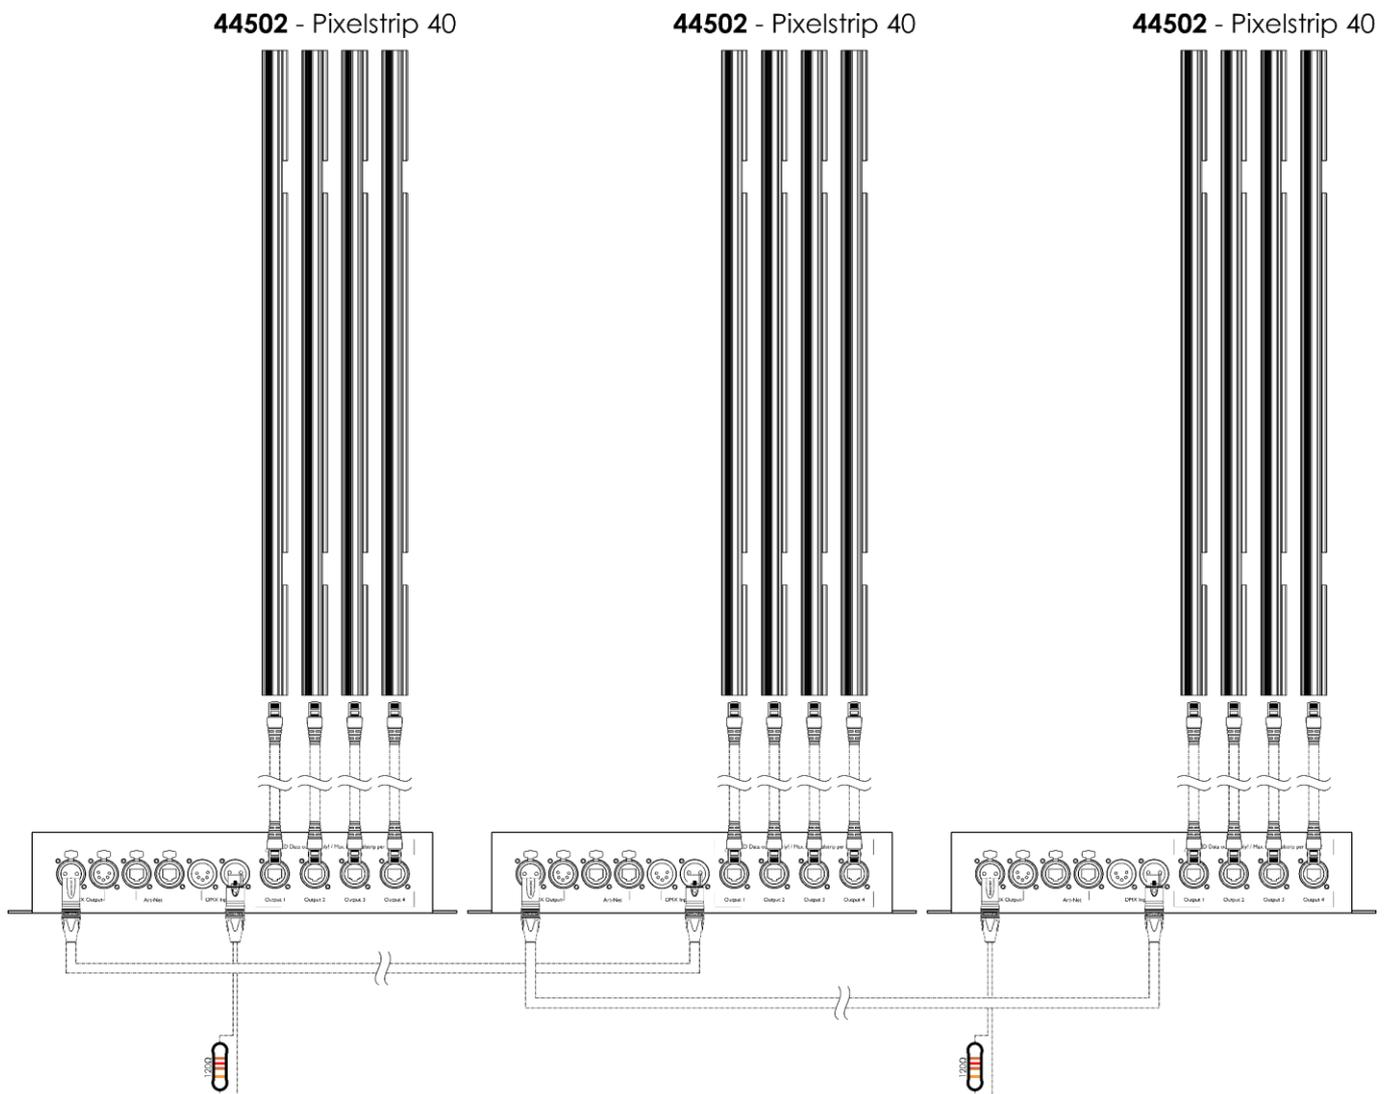

Fig. 05
- 05) Link the units as shown in Fig. 05. Connect the first unit's DMX "out" socket with the second unit's "in" socket, using a DMX cable. Repeat this process to link the rest of the units. You can use the same functions on the master device as described on page 23 (Auto mode, Manual mode). This means that you can set your desired operation mode on the master device and all slave devices will react the same as the master device.